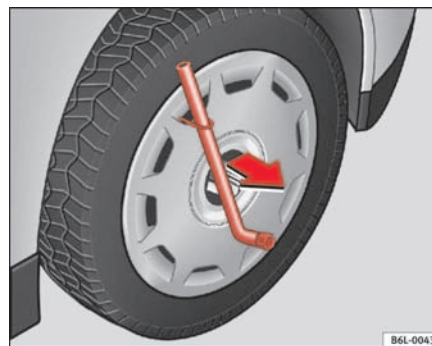

Fig. 132 Remove the wheel cover
- Remove the wheel cover using the spanner and the hook* ⇒ fig. 132.